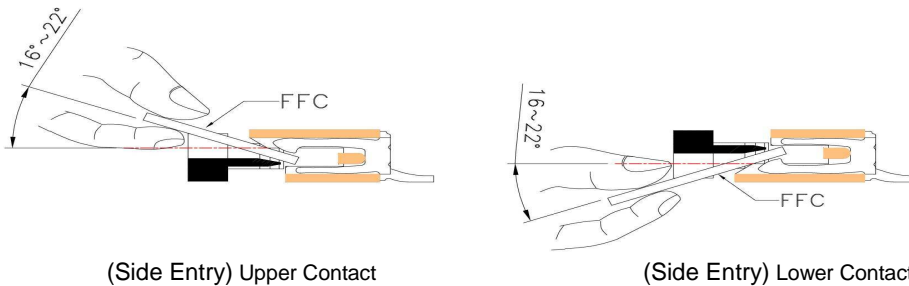

Figure 4.2.2
- ※ It is recommended inserting the FFC at an angle between 16° and 22° above the horizontal plane for upper contact connectors, for lower contact connectors, the insertion angle of the FFC should be between 16° and 22° below the horizontal plane (See Figure 4.2.2)